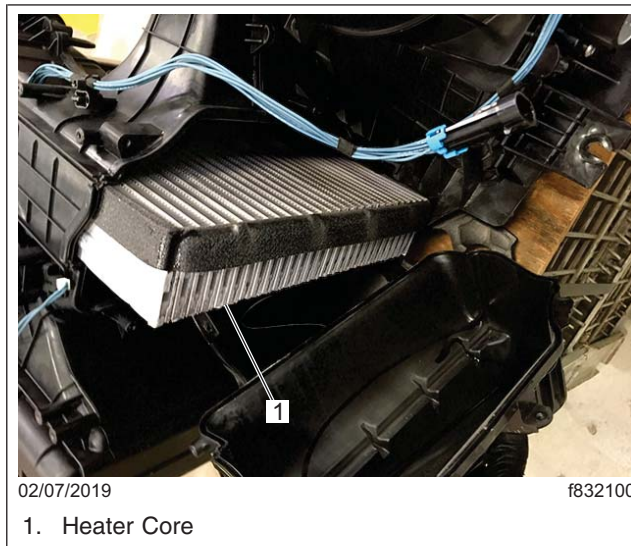

Fig. 13, Heater Core Cover Opened
- 31. Remove the fasteners from the Heater core cover and set the cover aside. See Fig. 13.